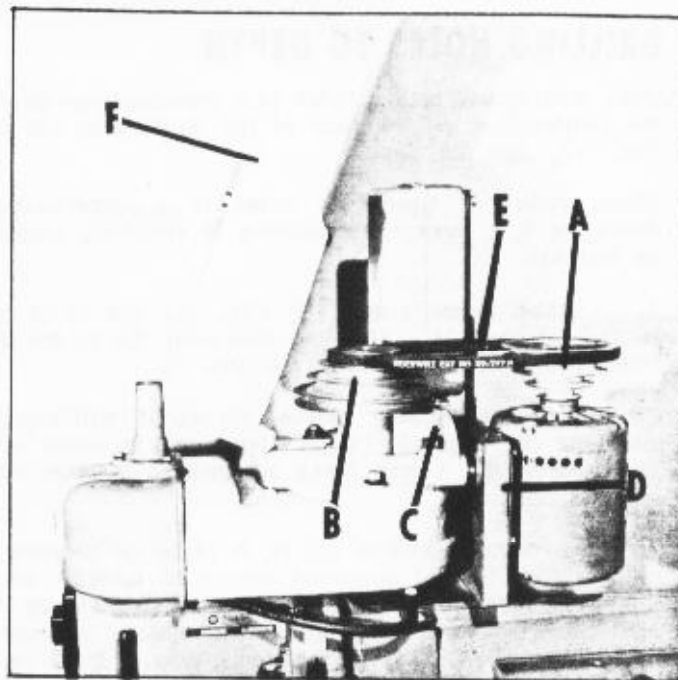

Fig 9
3. When changing the position of the belt on the motor pulley (A) and upper jackshaft pulley (B) Fig. 9, raise the belt and pulley guard (F), loosen the two screws (one of which is shown at (C) Fig. 9) that attach the motor plate to the jackshaft bracket, and push in the motor plate (D) to release belt tension. Position the belt (E) on the desired steps of the motor and upper jackshaft pulleys and pull out the motor plate until proper belt tension is obtained. Then tighten the two screws (C) Fig. 9.